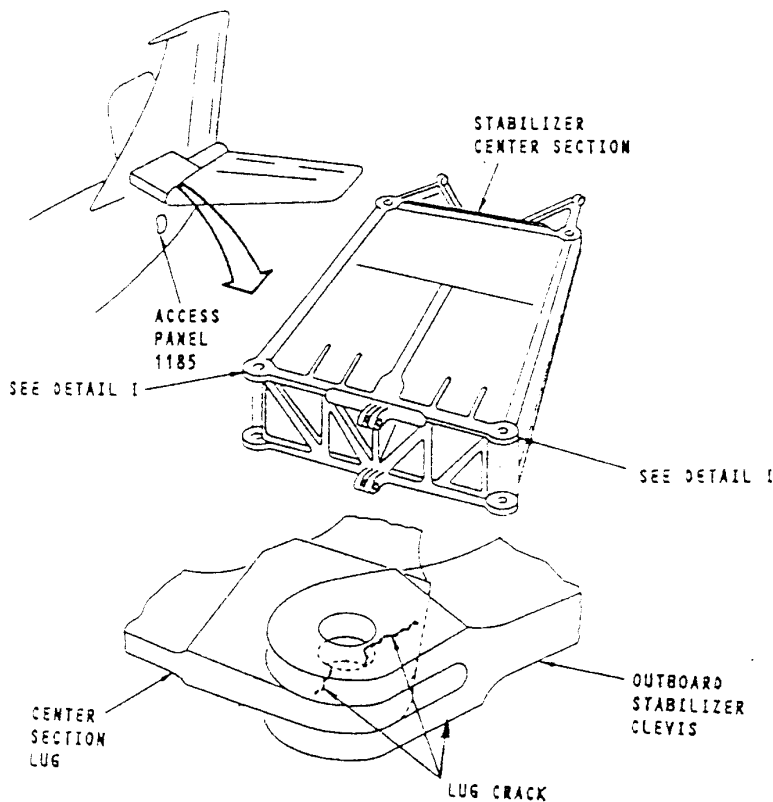

FIGURE 2. CENTER SECTION LUG INSPECTION
-Per SB A3482 rev 1 fig 2
1. Close visual inspection of the lugs for cracks with special attention to the fwd inb and aft outb areas of the lugs (fig 2).